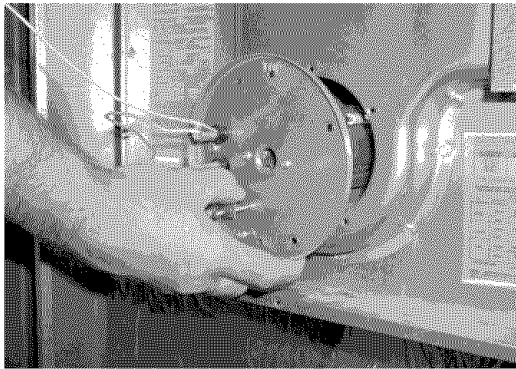

FIGURE 4: Burner assembly removal
5. Remove the burner assembly. See Figure 4.